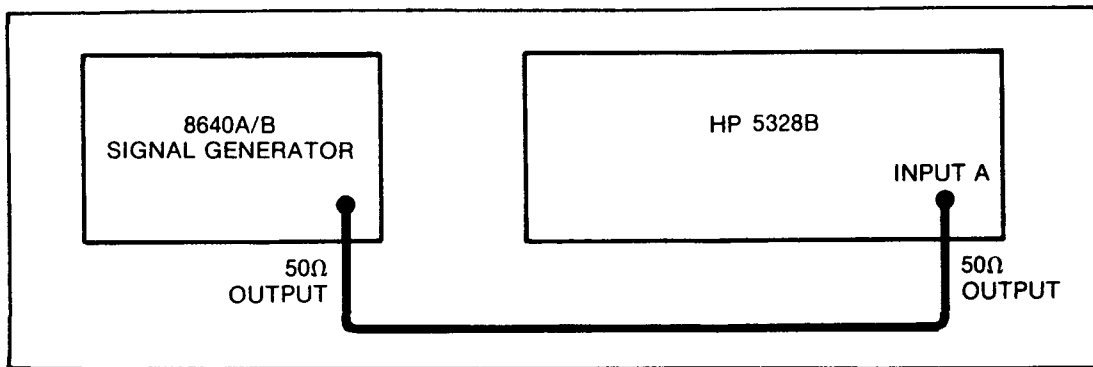

Figure 4-11. Period Test Setup — 10 MHz at 50 mV rms
**Description:** A 10 MHz signal from a generator drives the Model 5328B's Channel "A" as shown in Figure 4-11.
- a. Set up equipment for this test as shown in Figure 4-11.